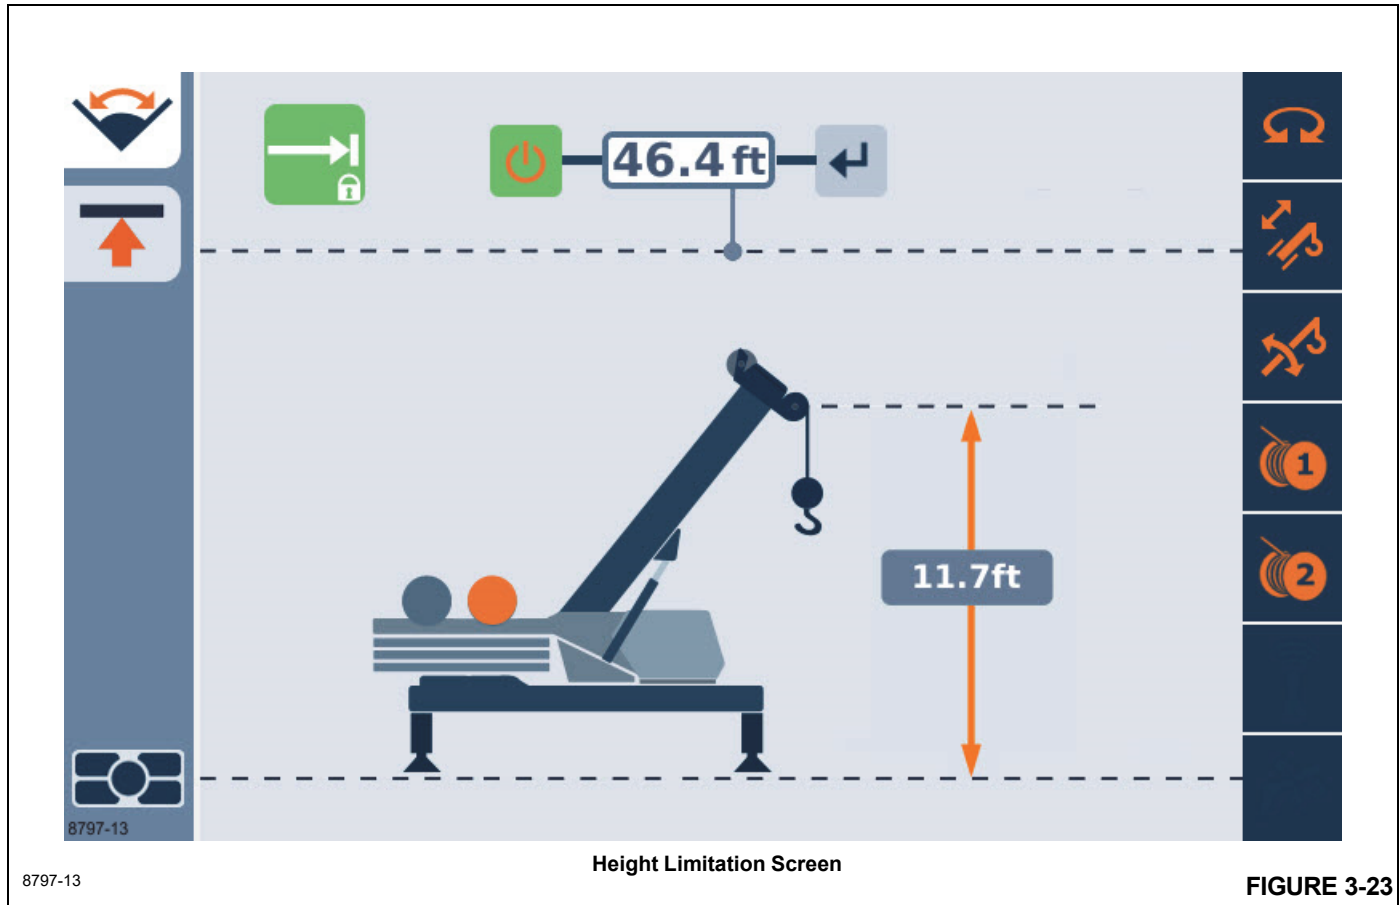

FIGURE 3-23
If the Height Limitation is selected from the menu of WRL limitations, then the Height Limitation Screen will be shown (Figure 3-23).
Using the Left Arrow and Right Arrow function on the display or the jog dial changes the object highlighted on the screen. As the arrow keys are pressed, the highlight will move between the objects, with the color orange typically meaning that the object is selected and can be affected by subsequent actions. In Figure 3-23, one can see that the
2. The Height Limitation Screen (Figure 3-23) is to be shown on the display.
7. Use the Right Arrow function twice to skip the Limitation Value and then highlight the Accept Crane Position symbol (refer to Table 3-4:). Use an OK button (item 2, Figure 3-20) to accept the current crane position (such as the 11.7 ft value shown in Figure 3-23) to be the Limitation Value. The Limitation Value should now be updated on the screen. Note that the boom is now at the limitation, so alarms are most likely sounding. The boom can now be moved away from the current tip height to cease the alarm. Refer to Table 3-2: for how the alarm performs. Refer to Figure 3-20 for the button to cancel an audible alarm (once boom motion has stopped).
1. The Height Limitation Screen (Figure 3-23) is to be shown on the display.